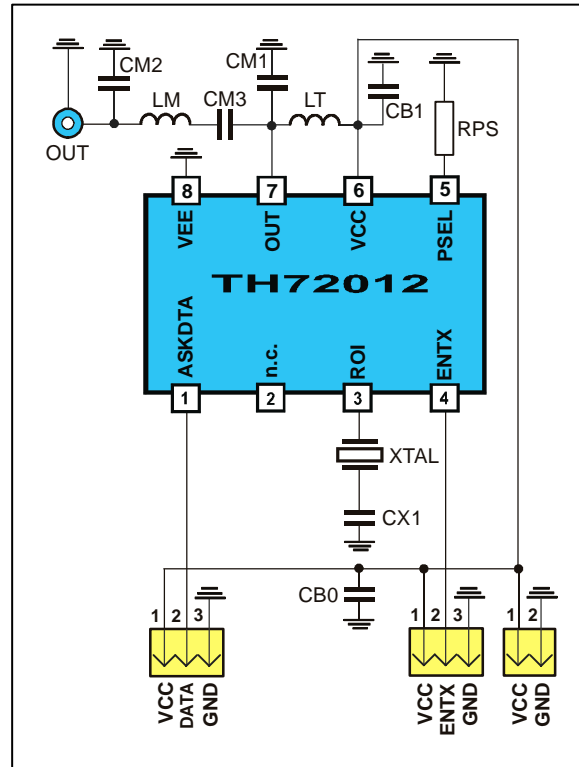

Fig. 18: Test circuit for ASK with 50 Ω matching network
6.1 Test circuit component list to Fig. 18